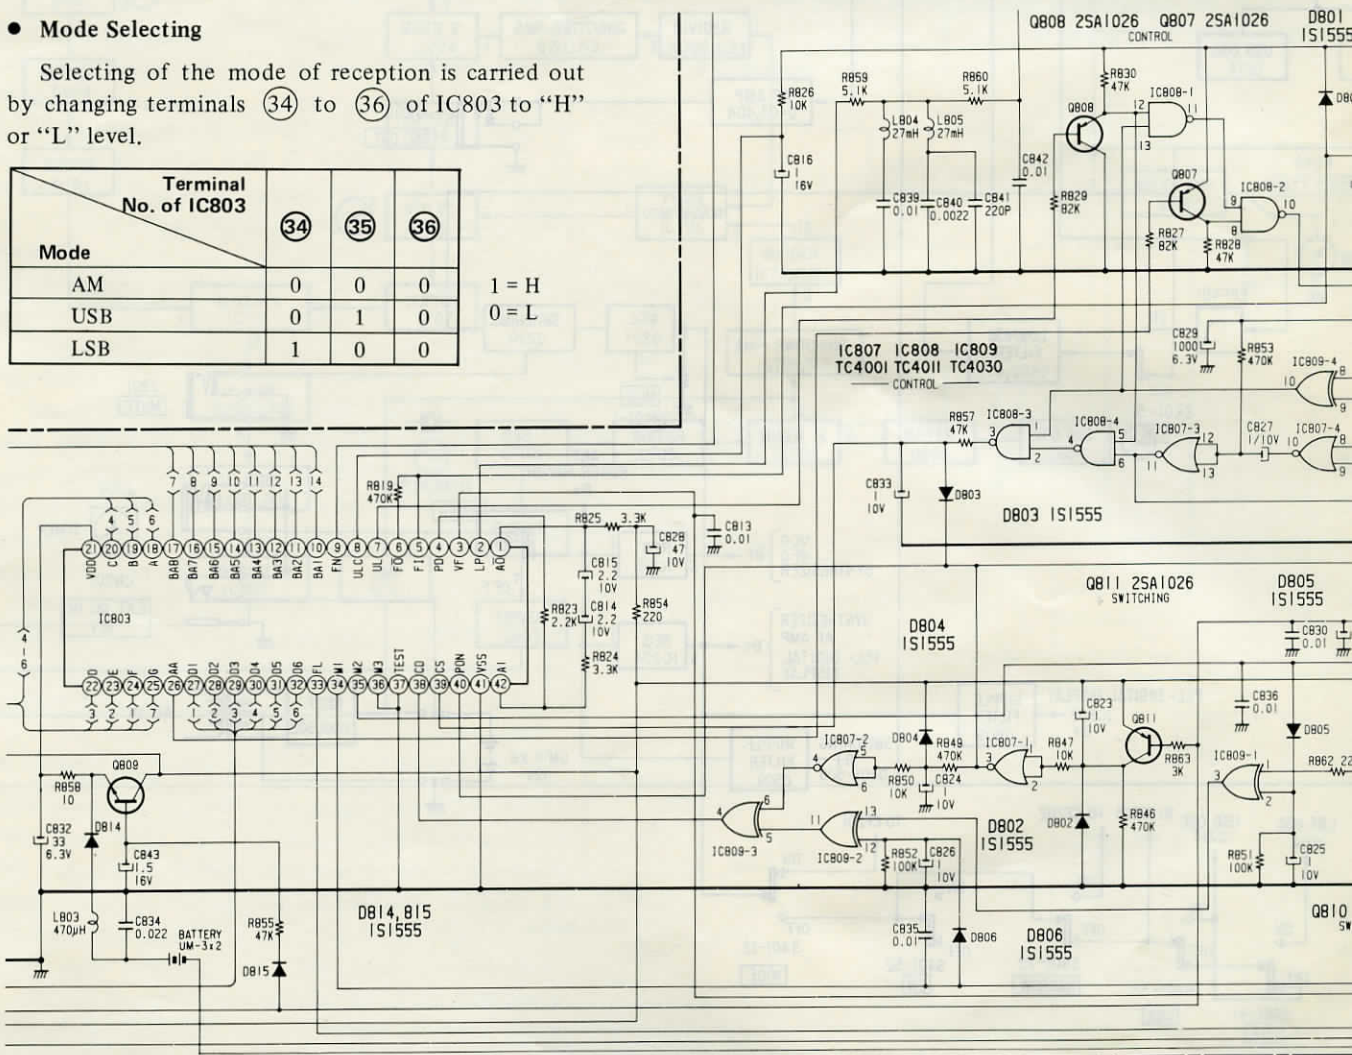

Fig. 4
● **Digital Display Circuit (See Fig. 4.)**
Figure 4 shows the schematic diagram of this section.
IC809-4 in Fig. 4 is an exclusive OR type IC. It is an IC that produces "L" level outputs when the inputs are the same.
When S402 in Fig. 4 is set to the "ON" position, terminal ⑨ of IC809-4 rises to "H" level. This is the same condition as when the TUNING knob is pulled, and so terminal ⑳ of IC803 rises to "H" level.